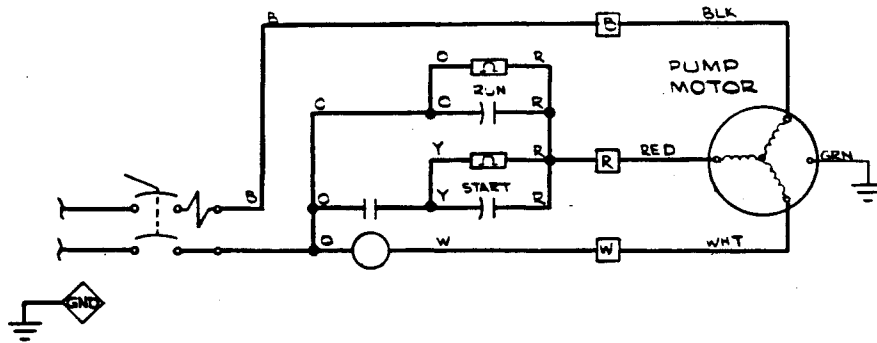
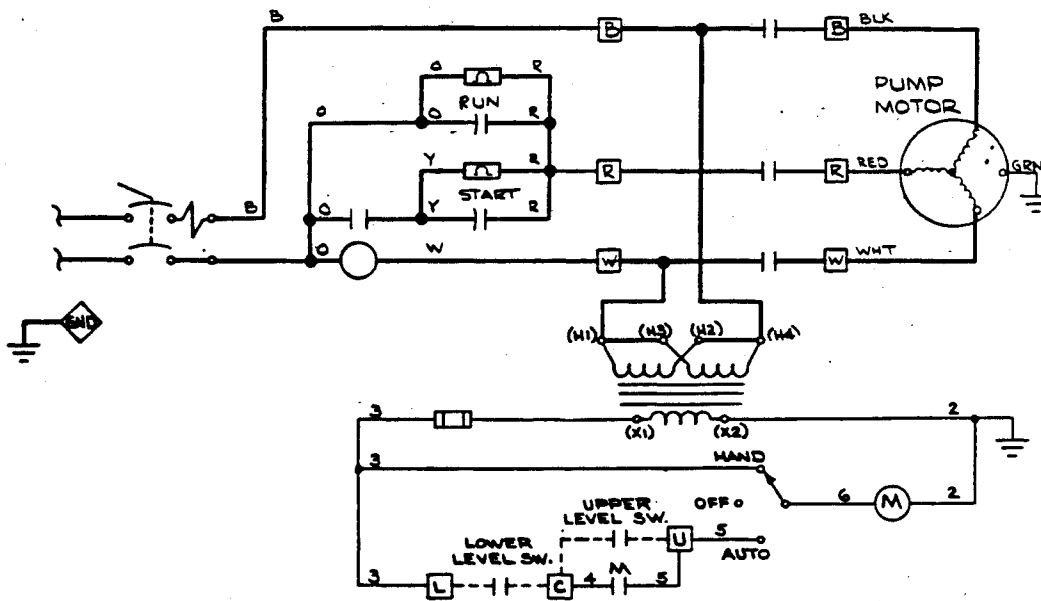
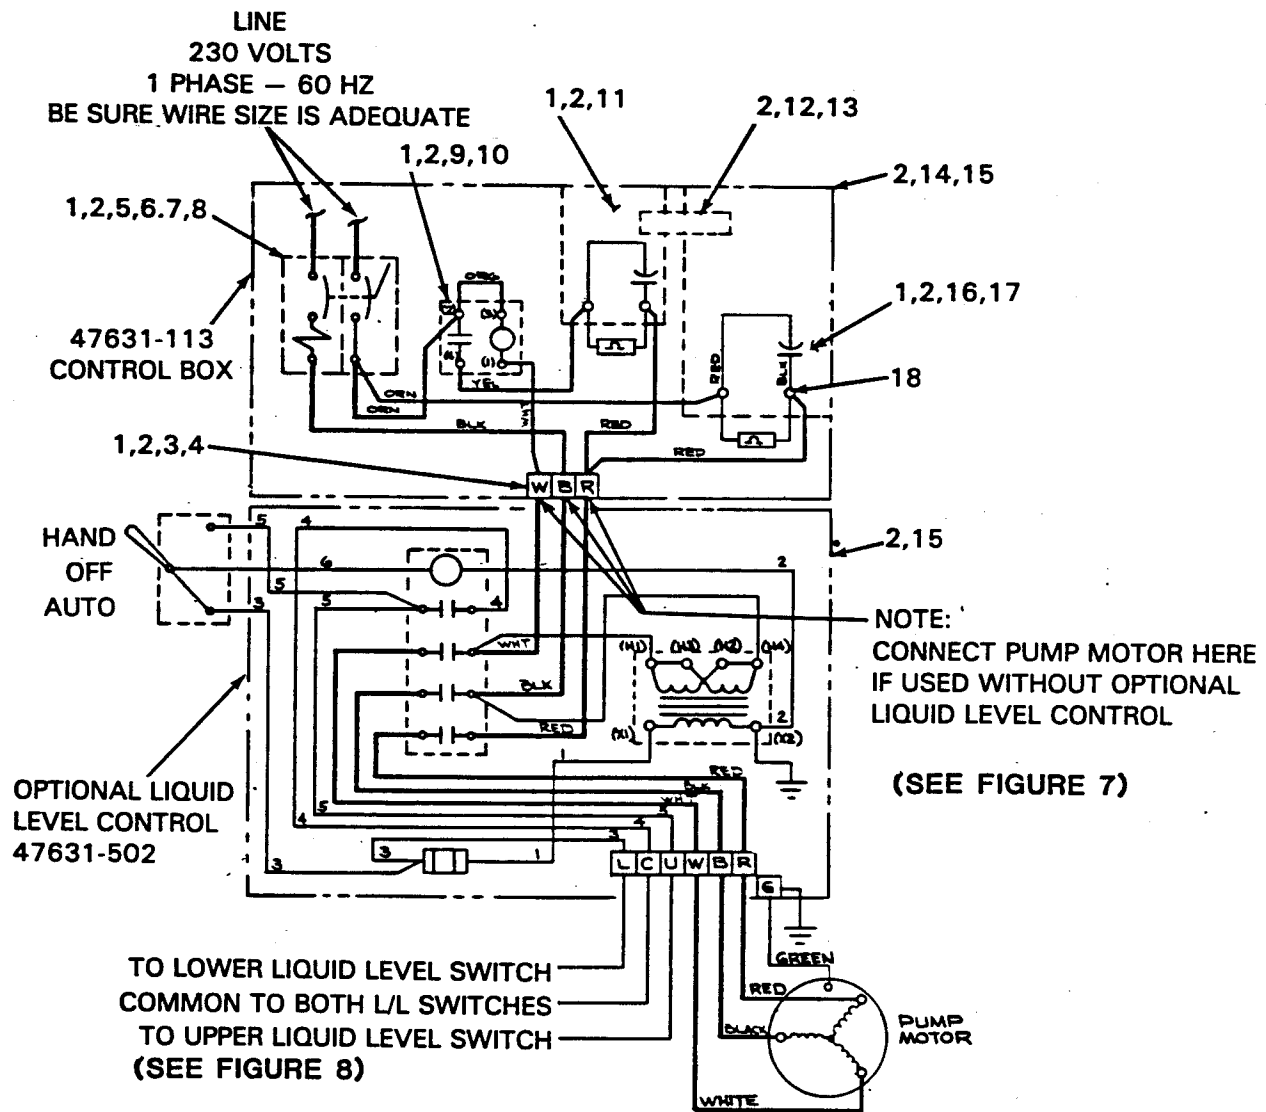

Figure 7. Elementary Wiring Diagram (Without Liquid Level Controls)
Figure 8. Elementary Wiring Diagram (With Liquid Level Controls)
Figure 9. 47631-113 Control Box Assembly - Pictorial Wiring Diagram
- a. Measure the incoming voltage across lines (1 & 2, 2 & 3, and 1 & 3, or 1 & 2 if 1 phase is installed.) while the pump is **operating at full capacity**. See Figure 7 on page B-15 or Figure 9 on page B-16.
Connect the pump power cable to the control box as shown in Figure 7 on page B-15 or Figure 9 on page B-16. Use conduit or cable clamps to secure the power and accessory cables to the control box. Make certain that all connections are tight and that cable entry points are rainproof.
If liquid level controls are to be installed, connect the motor power cables and level control power cables as shown in Figure 8 and Figure 9 on page B-16.
See Figure 9 on page B-16 for a pictorial wiring diagram and callouts of the control box assembly internal parts.